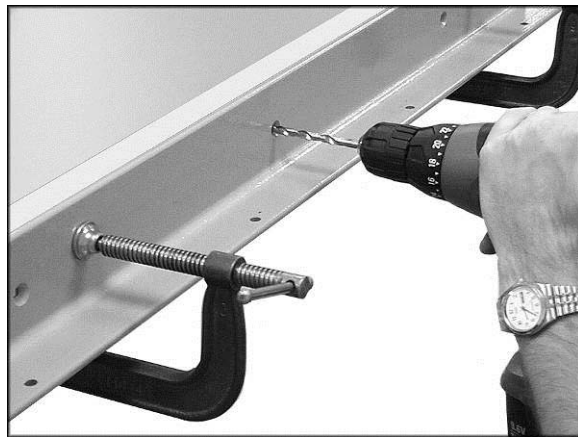

Figure 8
4. Place the wood extension table between the rails and up against the saw table, leaving the extension table raised just slightly above the saw table. Clamp the extension table to the front and back rails as shown in Figure 8. Clamping pressure should be enough to secure the table yet allow minor adjustments.
6. When the wood extension table is properly aligned, drill holes into the wood table using the holes in the rails as your guide. See Figure 8.